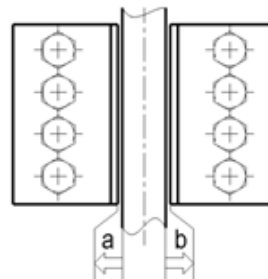

Fig.2.8
6. Turn axis **10** with a A/F wrench clockwise to move the jaw up to the clearance indicated on the datasheet GP air gap Fig. 2.8.